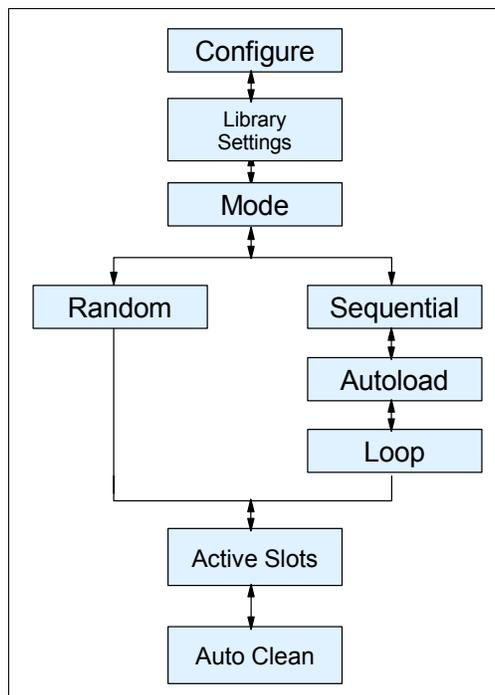

Figure 5-12 Configure: Library Settings
Figure 5-12 shows the Library Mode menu and the configuration options.
2. In *Sequential* mode, the library's firmware predefines the selection of the cartridges. After initialization, the firmware causes the library to select the first available cartridge found (counting from 1 through 22) for loading into the drive. In Figure 5-12, you find the tree structure of the Library mode menu.